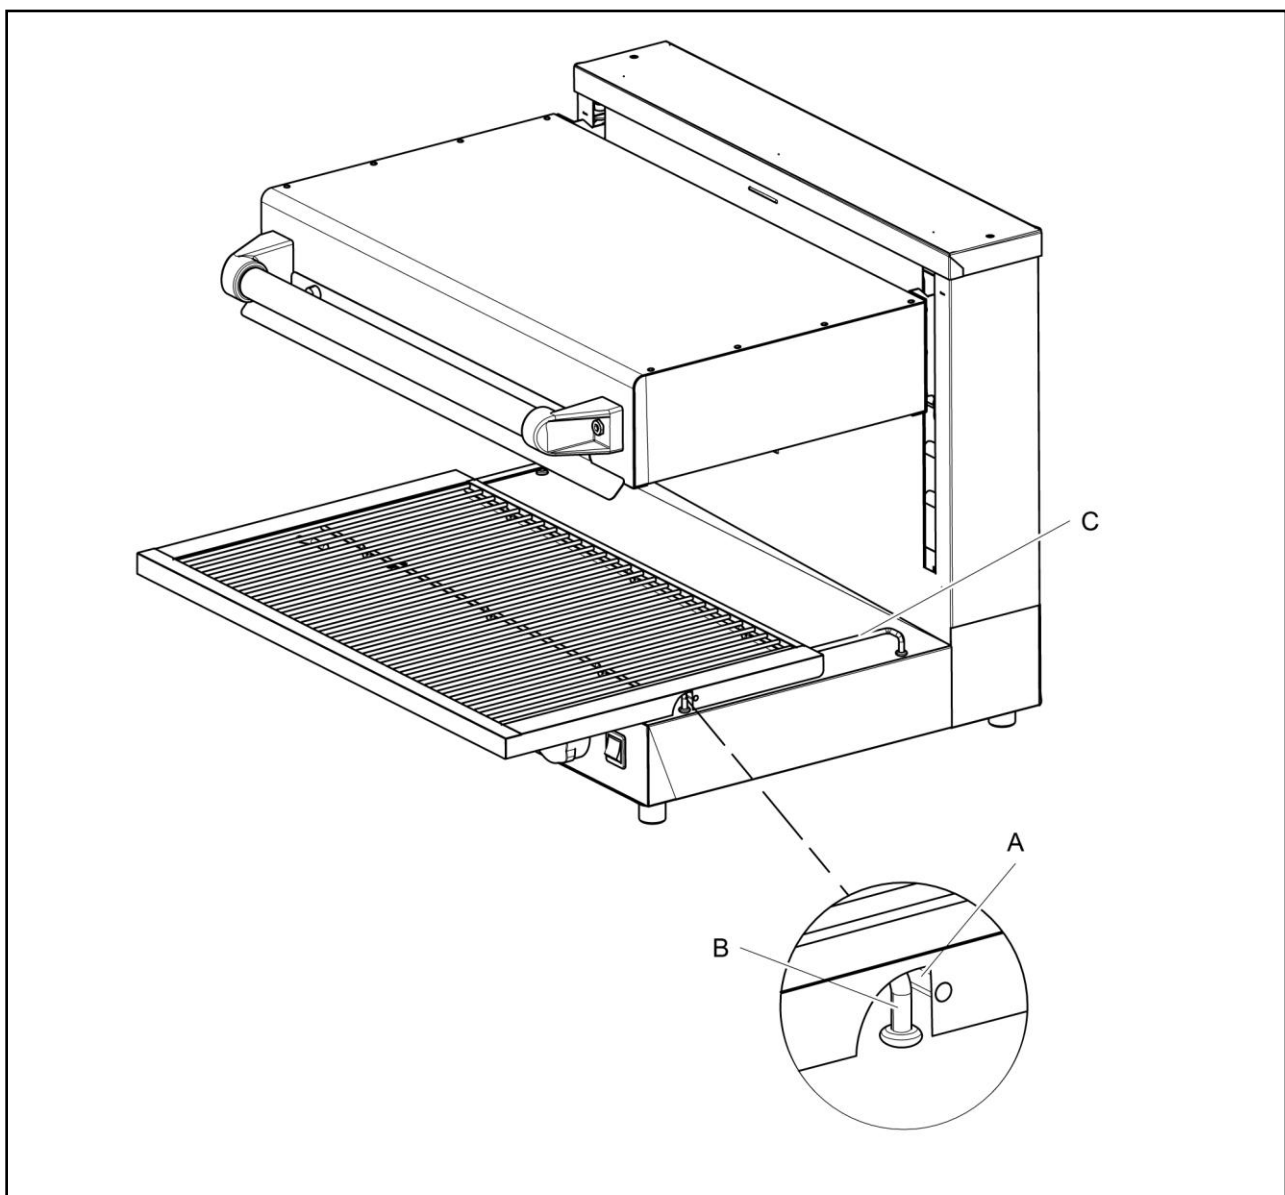

Fig 5
The wire grid, drip tray and tray support frame are removable for cleaning. When re-assembling, ensure the stop pins (A) beneath the drip tray are located behind the front uprights (B) of the fixed tray runners (C) to avoid the tray tipping when drawn forward. (Cut-away view – Fig 5).